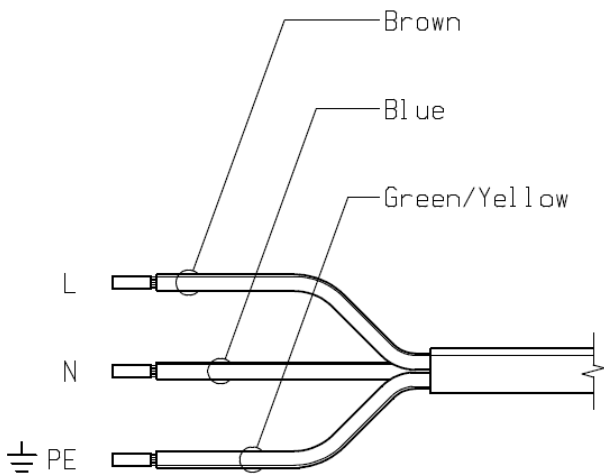

Fig. 2 Mains cable connection
- Connect up the connection cable as shown in Fig. 2, or fit a plug.